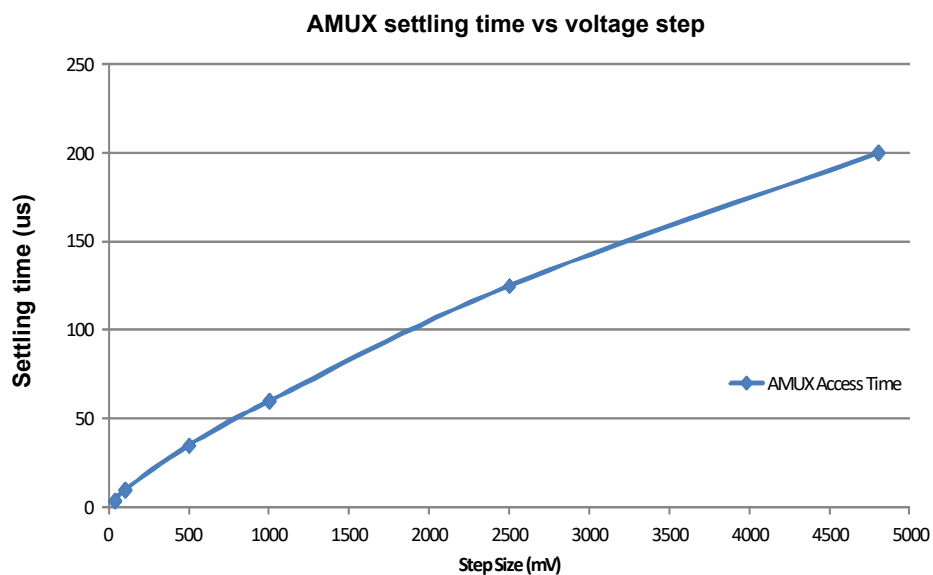

Figure 10. AMUX access time waveform
26. AMUX settling time to be within the 10 mV offset specification. $AMUX_{VALID}$ is dependent of the voltage step applied on the input SGx/SPx pin or the difference between the first and second channel selected as the multiplexed analog output. See Figure 10 for a typical AMUX access time VS voltage step waveform.